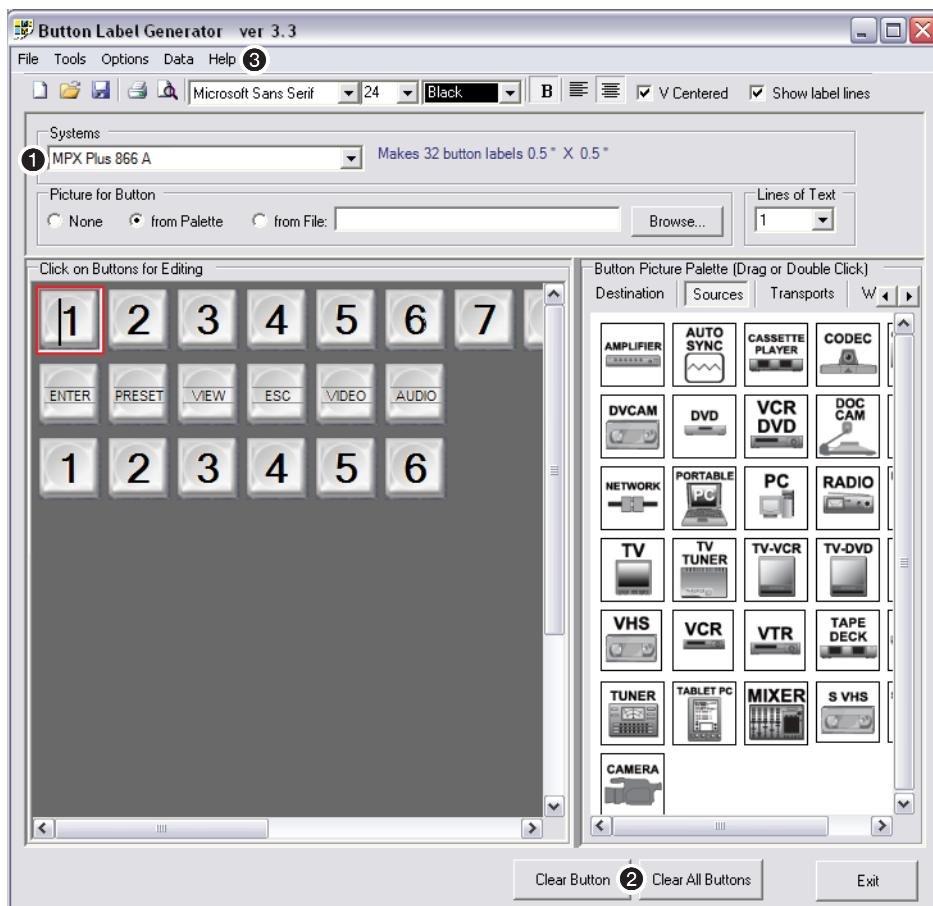

Figure 86. Extron Button-Label Generator Window
1. Click **Start > All Programs > Extron Electronics > Button Label Generator**. The Button-Label Generator window appears (see figure 86).